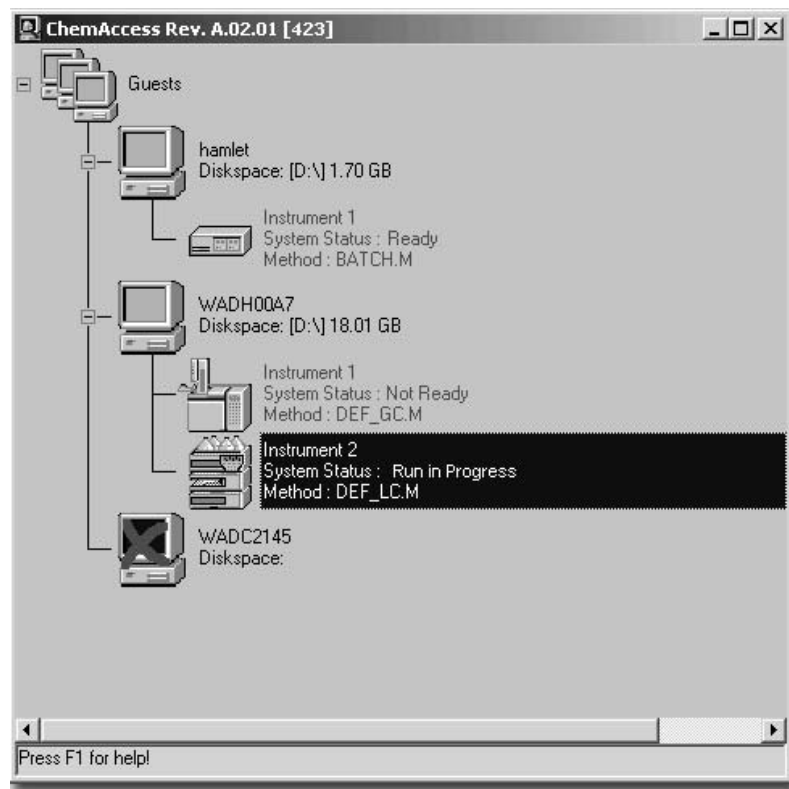

Figure 15
- Monitor the status of the Agilent ChemStation and instrument modules. Details are shown in figure 15.